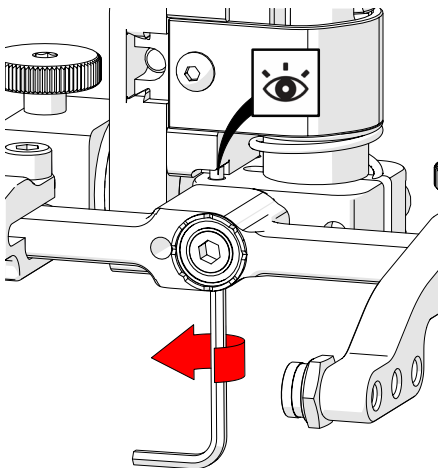

Fig. 111 - Raise opposite 90° stop post
8. Raise the stop post on the opposite side until the side of the post contacts the 90° stop point on the probe holder's base (Fig. 111).